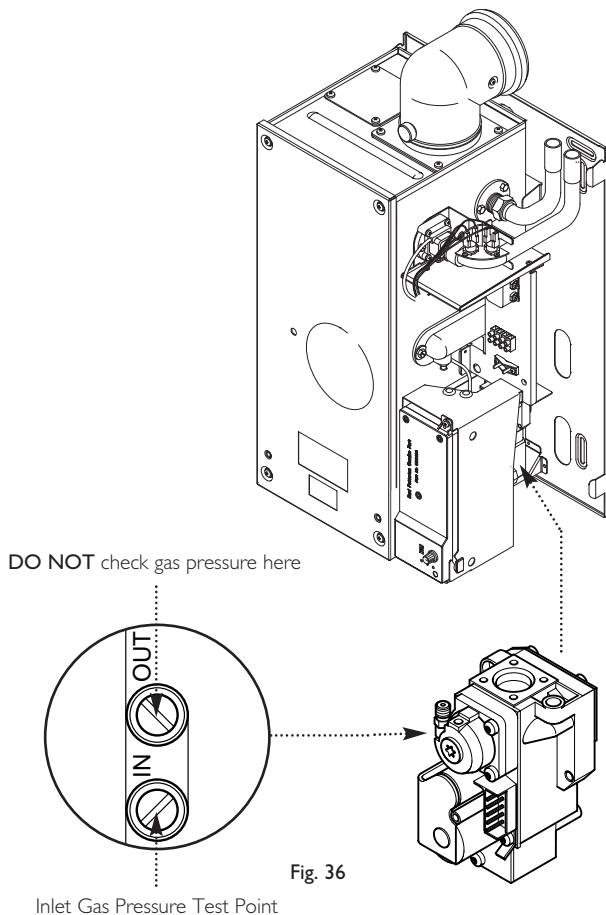

Fig. 36
8. With the system cold and all controls calling for heat check the gas pressure at the inlet tapping of the gas valve (Fig. 36). The pressure must be a minimum of 18.1 mbar (Working Pressure). Check that the gas rate is no greater than quoted in Section 4.0 Technical Data.